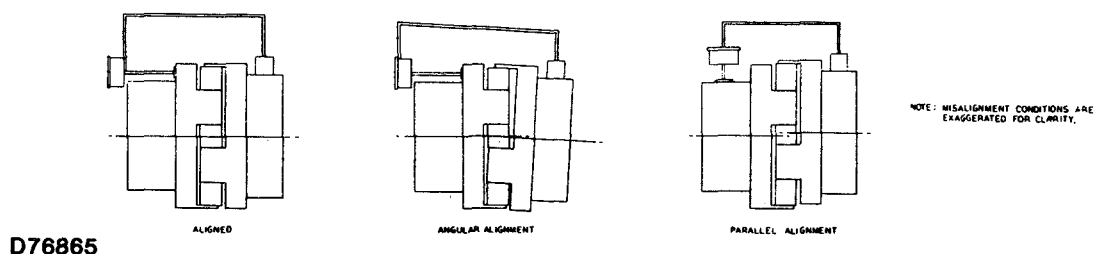

FIGURE 2-7. — ALIGNMENT OF COUPLING
2. Position the coupling body on each shaft (motor and compressor) so that shaft ends are about flush with the face of the body, and flanges rest snugly against the raised dots on the coupling spider faces. When positioning either coupling half on the shaft, make sure the shaft doesn't extend through the coupling to interfere with the spider. Approximate distance between shafts is one (1) inch. Tighten the set screws over the key in each coupling body.
3. Check angular alignment (Figure 2-7, View B) by attaching a dial indicator as shown; base and stem attached to the body of one coupling half, the indicator button resting on the face of the flange of the opposite half. Rotate the coupling and indicator assembly to the top 12 o'clock position and zero the dial. Be sure that the dial button is firmly in contact with the face and that sufficient indicator travel is possible. Tap the indicator face several times to insure return to zero. Rotate the coupling and indicator assembly to the 3, 6 and 9 o'clock positions and record indicator reading at each point. **Maximum allowable indicator reading is .010"**. Shim (or lower) motor vertically and/or adjust from side to side until indicator reading is .010" or less.
4. Check parallel alignment (Figure 2-7, View C) by attaching a dial indicator as shown: base and stem attached to the body of one coupling half, the indicator button resting on the outside diameter of the opposite half. Rotate the coupling and indicator assembly to the top 12 o'clock position and zero the dial. Observe the cautions about firm indicator button contact, indicator travel and zeroing outlined in Step 3. Rotate the coupling and indicator assembly to the 3, 6 and 9 o'clock positions and record the indicator reading at each point. **The maximum allowable indicator reading is .010"**. Shim (or lower) motor vertically and/or adjust from side to side until indicator reading is .010" or less.